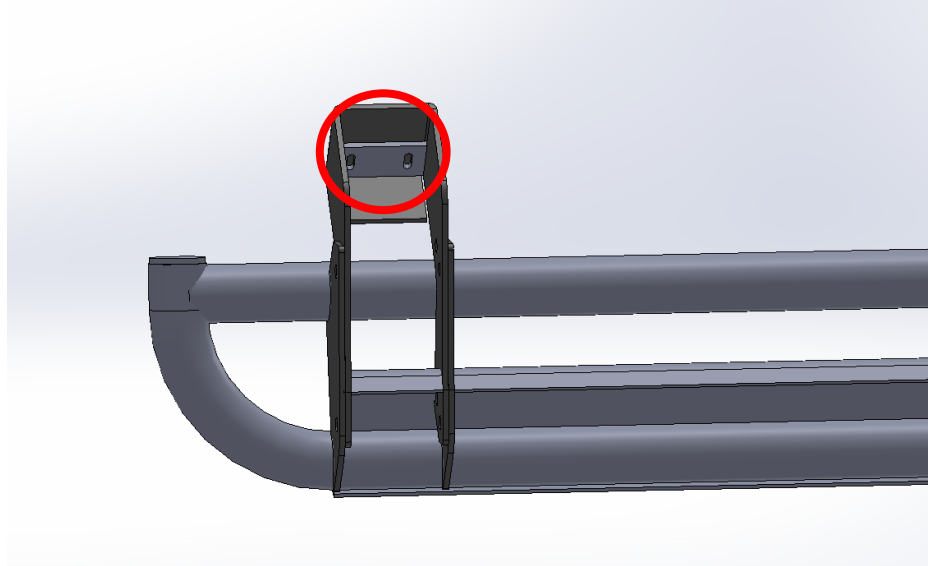

Figure 5
- The nerf bar has two flanges on the back that stick up and will go on either side of the bracket. Take the Nerf bar backing plate and place it underneath the bracket to use as a template to mark the holes. See Figure 5 below.
- The nerf bar has two flanges on the back that stick up and will go on either side of the bracket. Take the Nerf bar backing plate and place it underneath the bracket to use as a template to mark the holes. Reference Figure 5 again for using the backing plate as a template.